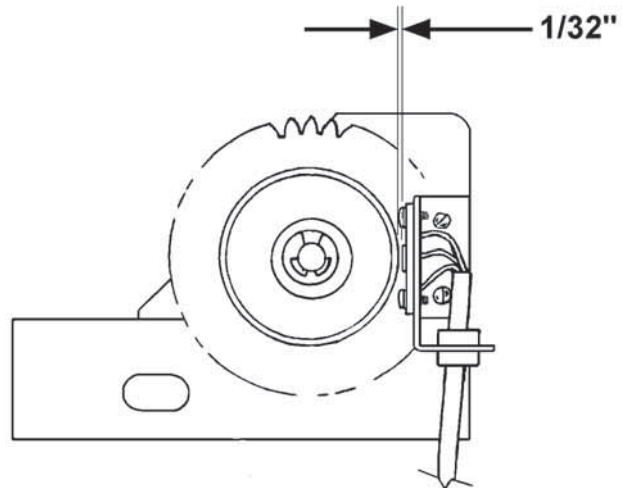

Figure 2
4. Place Pulse Generator [Fig. 2] lower bracket over cross-brace bolt hole and reinstall bolt. **DO NOT TIGHTEN** at this time.